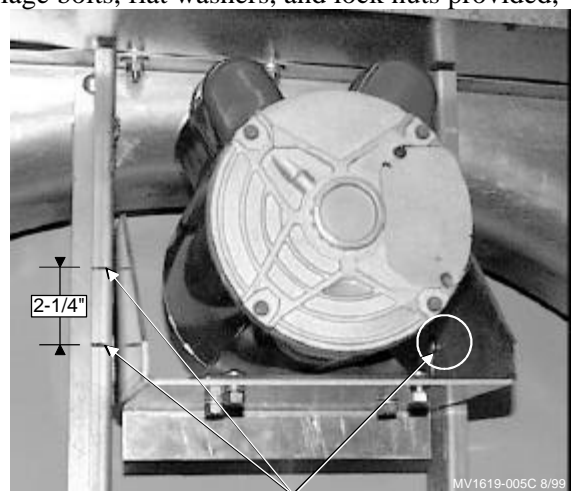

Figure 4. Bolt Hole location for Bracket
9. Apply tension by moving the U-Mount Motor Bracket upward and re-tighten bolts to secure. See **Figure 4**. See Decal on side of Bracket for belt tensioning diagram.